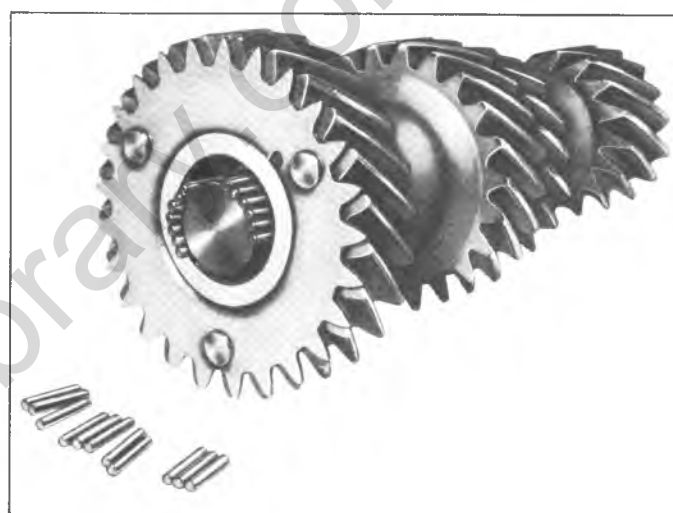

Fig. 15B--Loading Countergear Bearings Using J-22246
2. Using heavy grease to retain the rollers, install a spacer, 28 rollers, a spacer, 28 more rollers, then another spacer. Install in the other end of the countergear, a spacer, 28 rollers, a spacer, 28 more rollers, and another spacer (fig. 15B).